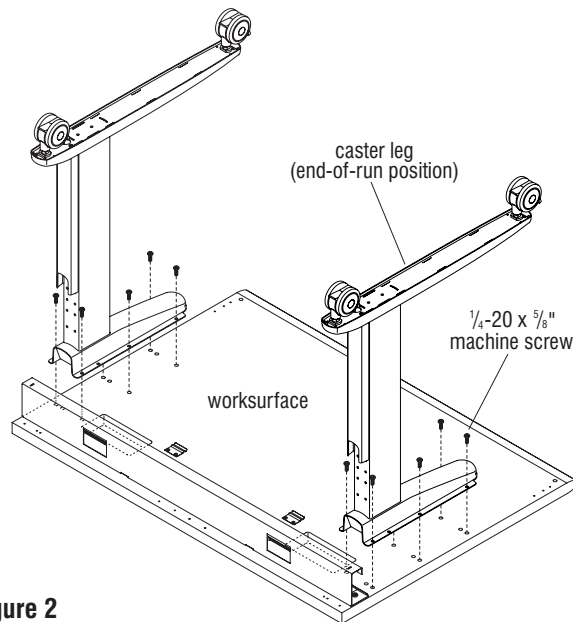

Figure 2
3. Attach two caster legs to underside of worksurface at end-of-run position, with 1/4-20 x 5/8" machine screws as illustrated. For ease of installation, start all screws before tightening (Figure 2).
Note: Consult your space plan layout. An end-of-run leg position is shown in figure 2 while a shared leg position is shown in figure 3.